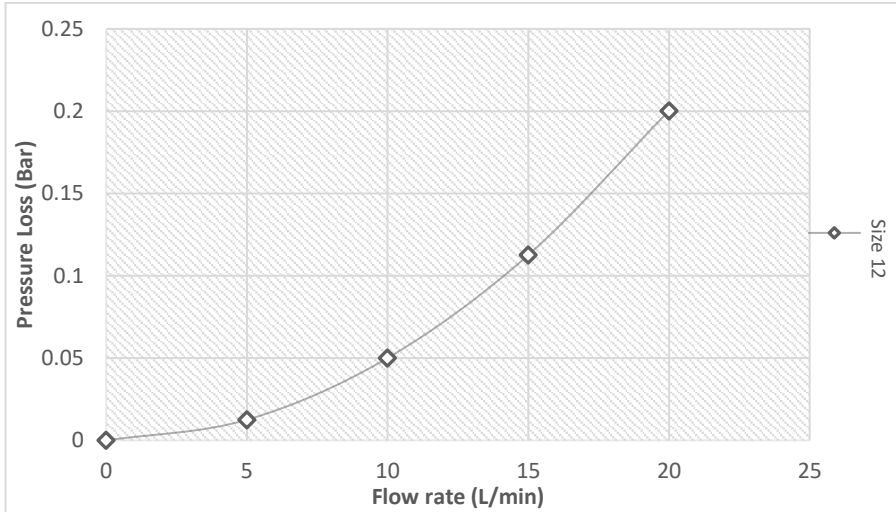
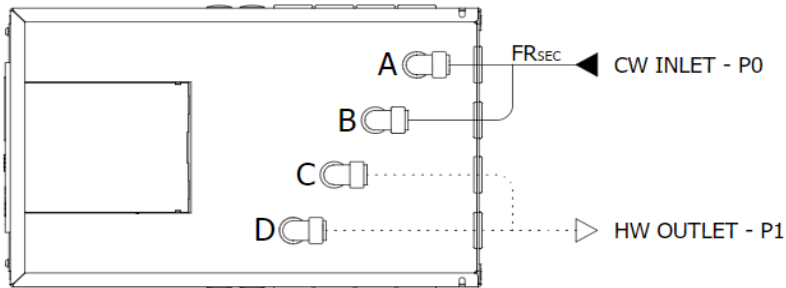

Figure 6.1: UniQ eHW 12 Heat Battery pressure loss characteristics graph
Figure 6.2: Pressure loss at inlet & outlet of the Heat Battery
Pressure loss characteristics K _v Values	Figure 6.1 (Section 2.6)
Pressure loss characteristics can be calculated using the graph below (Figure 6.1). The points that the pressure loss for the Heat Battery are displayed in (Figure 6.2)
Note: - Cold water inlet is branched to feed into ports A&B and the hot water outlet is branched together and connected into ports C&D. (Figure 6.2).
- Mains cold water supply should be connected to Heat Battery connection 'A&B'. The hot water outlet should be connected to 'C&D' (see Figures 6.2, 12.1 and 13.1).